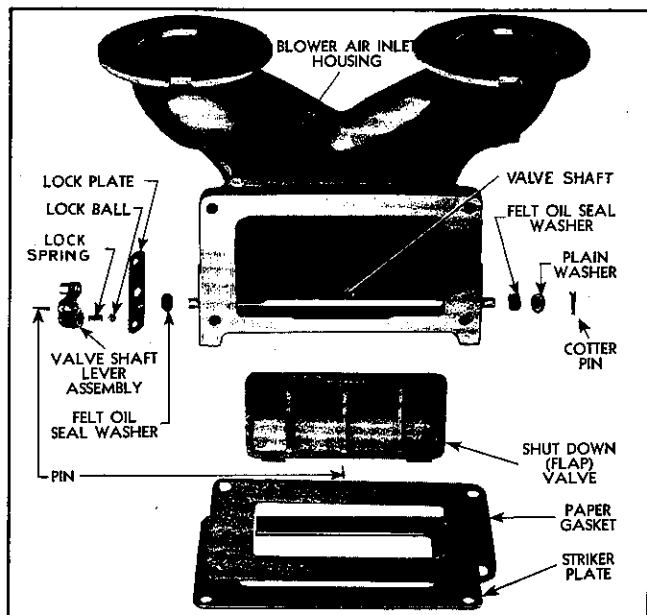

Fig. 22—Manually Operated Emergency Engine Shut-Down Details.
**Service — Emergency Engine Shut-down — Manual**—The emergency shut-down is properly adjusted before leaving the factory and should need no further attention unless the device has met with accident or becomes otherwise inoperative. Should it become necessary to disassemble the shut-down device, note the relative position of each part, as shown in Fig. 22, so parts may be reassembled correctly.